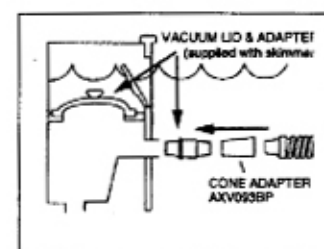

Figure 8
**Figure 8** shows the proper way to connect the hose to a skimmer that has an "in the pool" vacuum port. The AXV093BP Skimmer Adapter Cone slides over the vacuum adapter that was supplied with your skimmer for connecting a hand vacuum. Also, it is necessary to utilize the vacuum lid supplied with the skimmer so that your cleaner will operate properly.